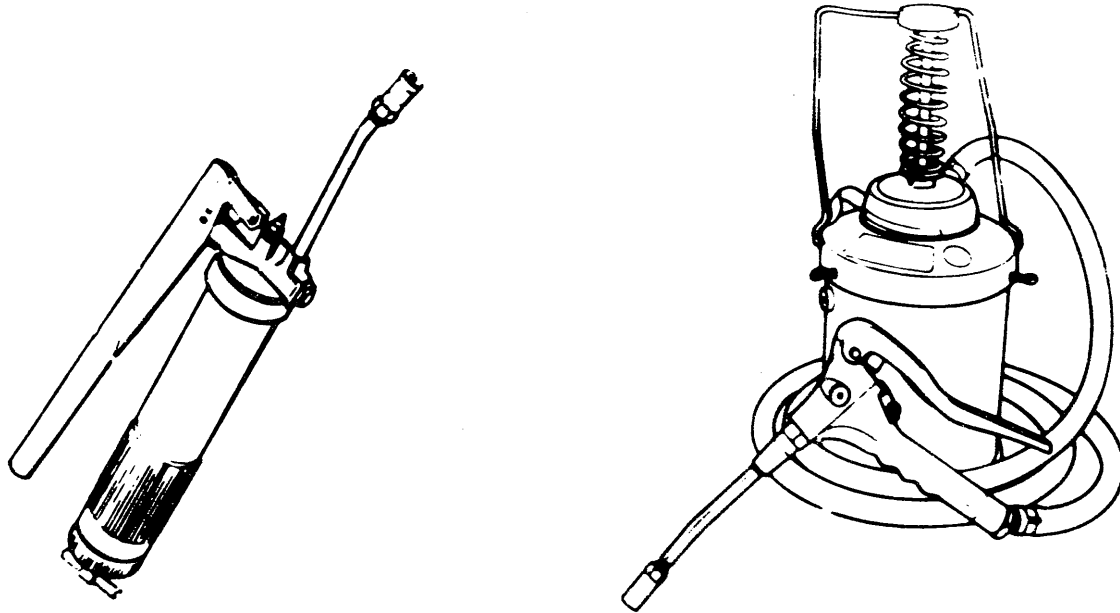

Figure 9-20. Lubricating Equipment
m. Lubricating Equipment. Lubricating equipment, shown in figure 9-20, is commonly called grease guns. Grease guns are used to lubricate various moving parts on an aircraft. This paragraph will cover hand-operated grease guns.
(1) Purpose. Grease guns are designed to inject a lubricating substance between two metal surfaces that move against each other. The lubricant is injected through a fitting, designed with a check ball to prevent the lubricant from coming back through the fittings.
(2) Type. The most common type of grease gun is the lever operated. This type of grease gun is cylindrical, holds 14 ounces of lubricant, and requires two hands to operate. The lubricant is spring-primed and is delivered at 6,000 psig.